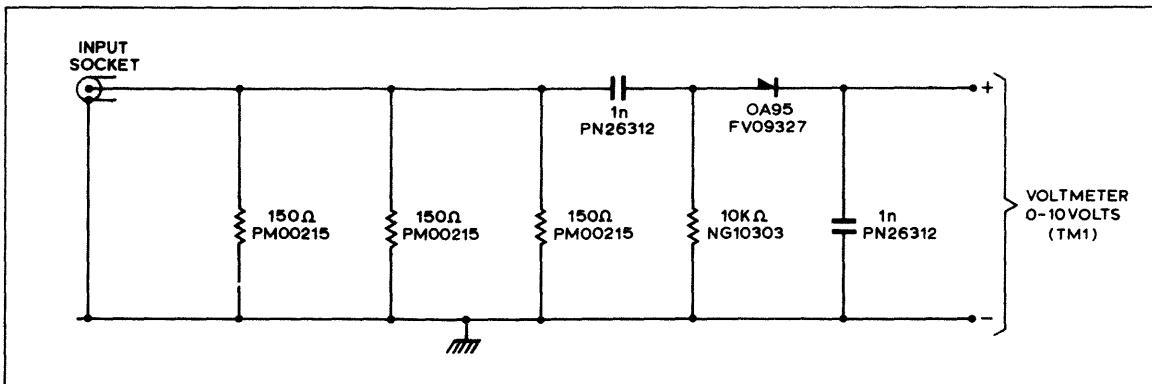

Fig. 4A R.F. Power Output Indicator
6. R.F. power output meter reading up to 1 watt full scale. (See Fig. 4a)